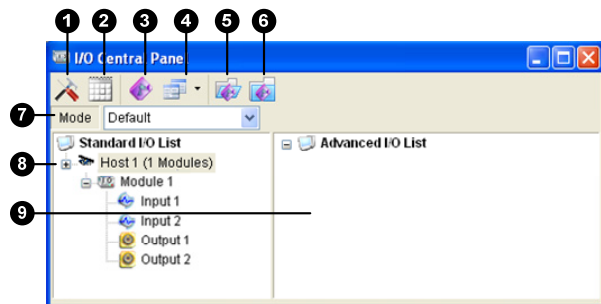

Figure 4-46
1. Right-click on **Advanced I/O List** (No.9, Figure 4-46), and then select **Add A Group**. This dialog box appears.
[Display Setting] You can define the nature of I/O devices by colors. Note that the setting only affects the **Detail** style of the Advanced I/O List (No. 4, Figure 4-46).
On the panel toolbar, click the **Configure** button (No.1, Figure 4-46) and select **Panel Setting**. This dialog box appears.
You can view the connection status of the hosts. On the panel toolbar, click the **Configure** button (No.1, Figure 4-46) and select **View Notification**. This dialog box will appear. The maximum of 1000 messages will be logged for reference.
1. Click the **Mode** drop-down list (No. 7, Figure 4-46), and select **More Edit**. This dialog box appears.
1. On the panel toolbar, click the **Configure** button (No.1, Figure 4-46), and select **Schedule Setting**. This dialog box appears.
4. To start the mode schedule, click the **Mode Schedule** button (No. 2, Figure 4-46), and then select **Mode Schedule Start**.